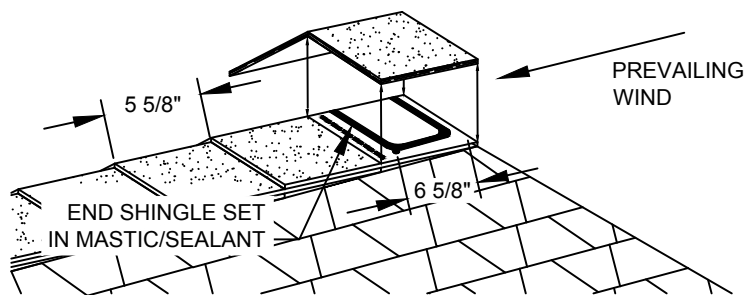

Figure 20 - Installation of RidgeFlex™ Shingles, Maintaining the 5 5/8" Exposure; End Cap Set in Mastic
Should adverse conditions exist (like high winds), the end cap can also be face-nailed. Place two (2) nails on each side, 1" (25 mm) back from each end, and 1" (25 mm) up from the sides. Cover the nailheads with a dab of sealant. (See Figure 20)